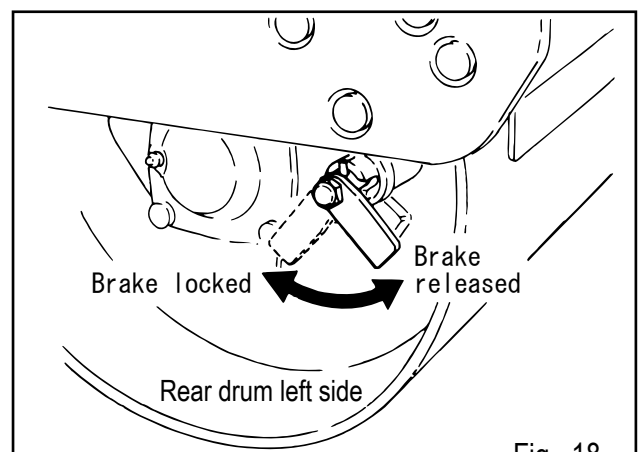

Fig. 18
CAUTION: Before starting to travel, be sure to disengage parking brake system. When the lever is tight, moving the roller back and forth will make it easier. (Fig.18)
- Lock the parking brake by pulling the brake knob and rotating it 90 degrees counter clockwise. (Fig. 18)